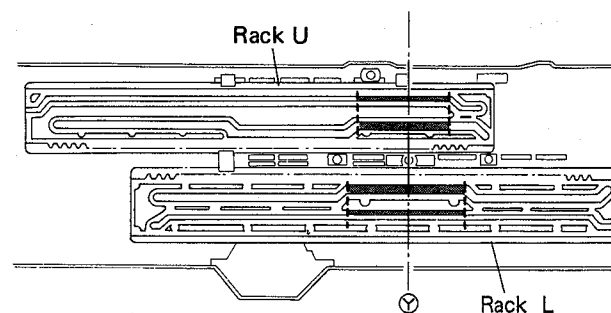

Fig. 3-4
1. Make sure that the positions of rack L and rack U are within the range indicated by the dotted lines in relation to the position of (Y) in Fig. 3-4. (Position at which U, S, and L switches are all OFF.)